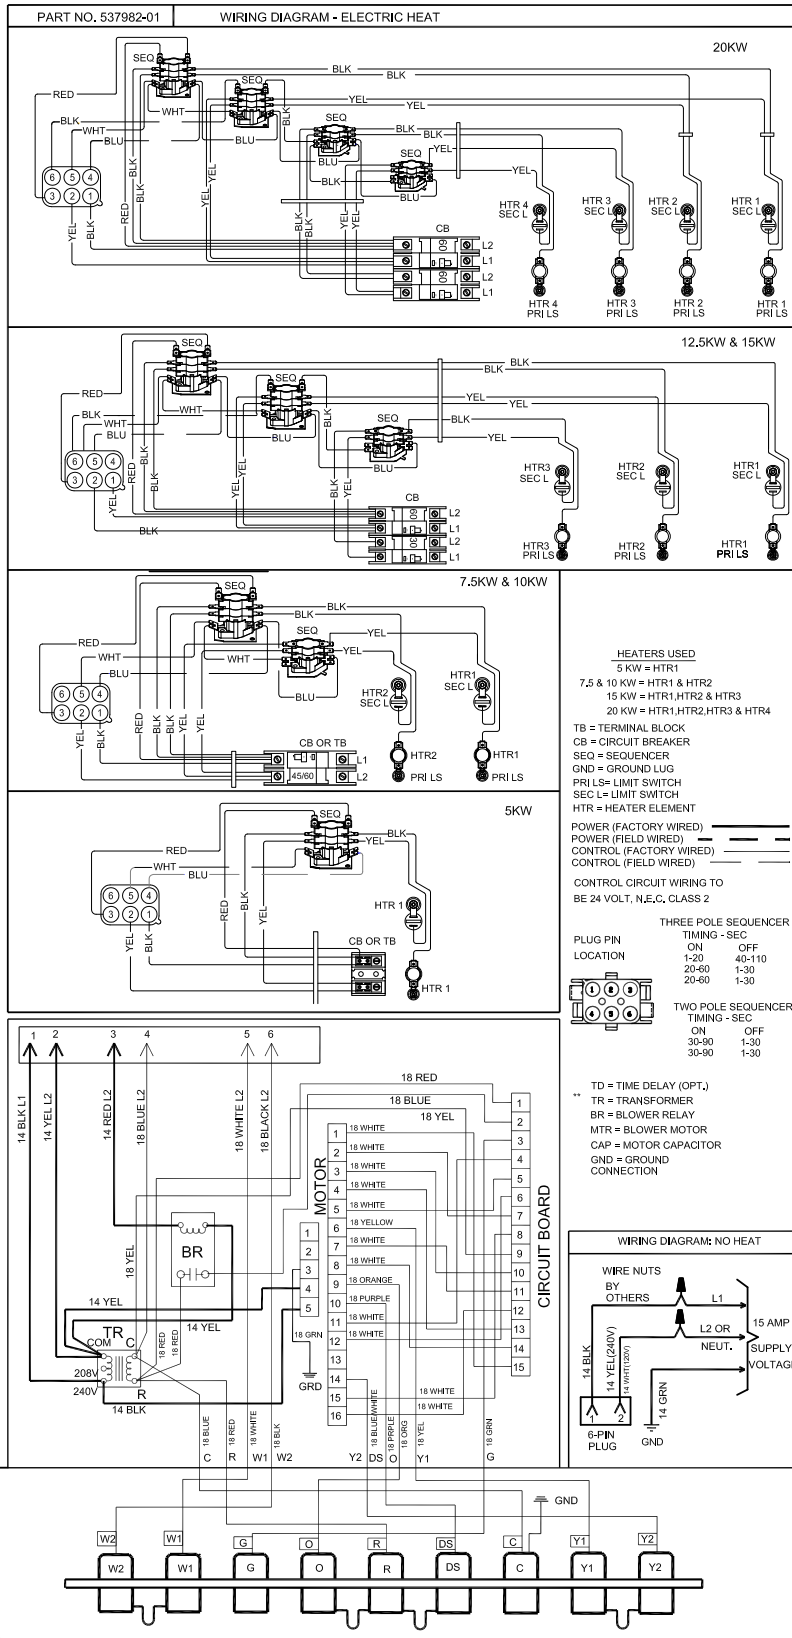

Figure 14. Typical Wiring Diagram – BCE5V Air Handler with Electric Heat – (Variable-Speed Motor)
- Typical unit wiring (as well as wiring of optional field-installed electric heat) is given in Figure 14. Refer to the instructions provided with the electric heat section for proper installation.